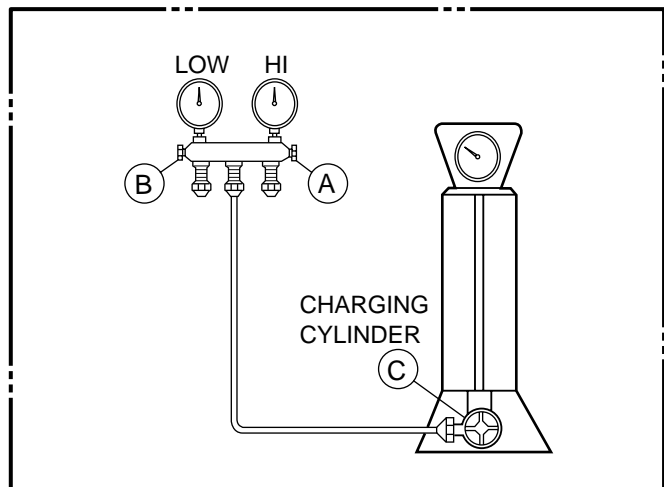

Figure 22B-Charging
- 4) Remove the hose from the vacuum pump and place it on the charging cylinder. See Figure 22B. Open valve C. Discharge the line at the manifold connection.
- 2) Connect the charging cylinder as shown in Figure 22B. With valve C open, discharge the hose at the manifold connection.